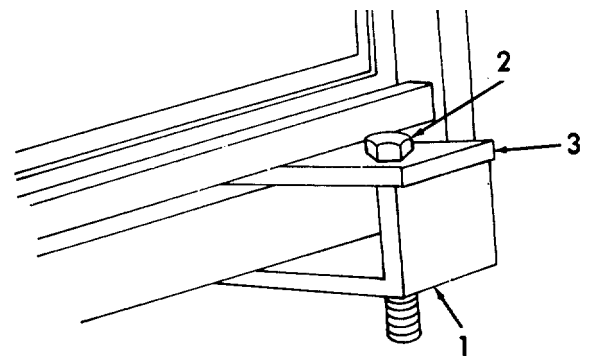

Figure 6-4. Holddown Clamp, Hook-
- (4) Have one person hold the end of each of the four 15 foot cargo straps (4).
- (5) With the four persons using the cargo straps to steady the cabinet, slowly lift the cabinet assembly up and onto the trailer.
- (6) Disconnect the chains (2) and hoist (3) from the lifting loops (1).
- (7) Disconnect the cargo straps (4) from the lifting loops (1).
- (8) Refer to Figure 6-4. Rotate the clamp arm pad (1) into position on the trailer ledge.
- (9) Tighten the screw (2) on each of the six holddown clamp assemblies (3) securely.
- (10) Load the cabinet assembly as required (para. 2-16).